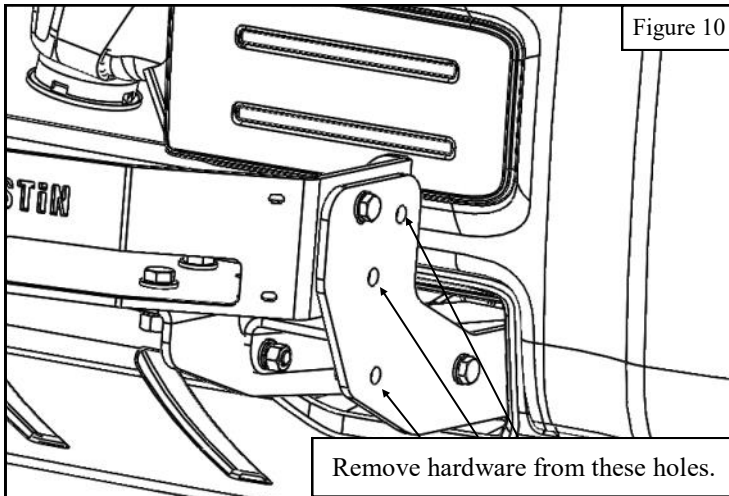

Figure 10
16. Remove the bolts from the Winch Tray shown in **Figure 10**.